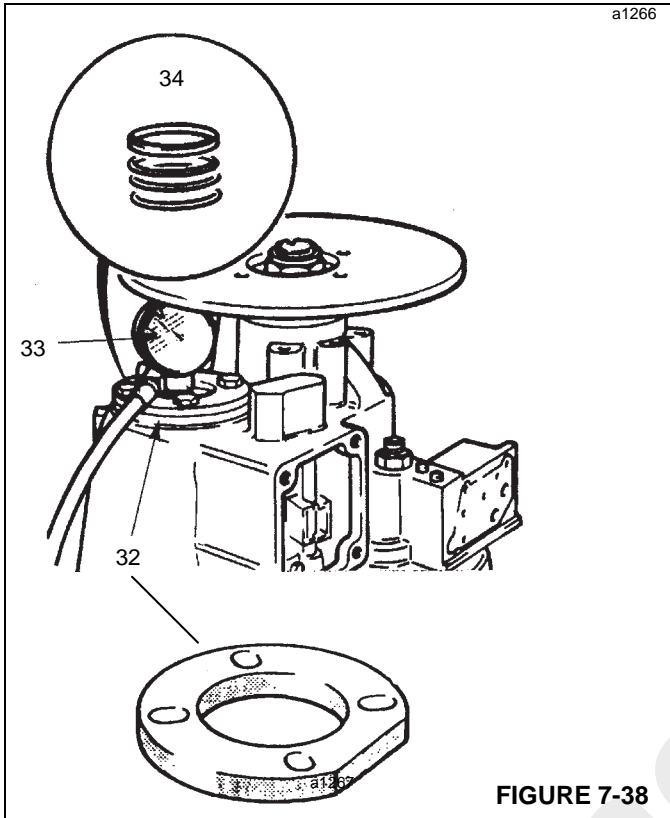

FIGURE 7-38
- 32. Remove the layshaft bearing cap and substitute tool (32, Figure 7-38) together with a new gasket. Tighten securing bolts to a torque of 56 Nm (42 lb-ft).